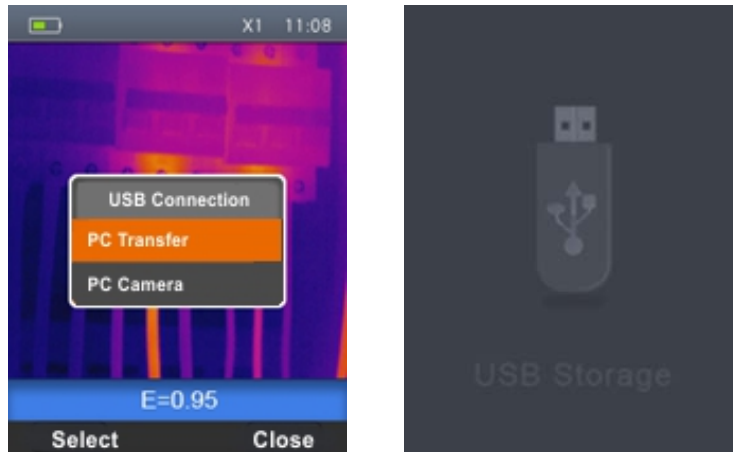

Fig. 32: Transferring images/videos onto the PC
2. Connect the USB cable to the instrument (see Fig. 2 – Part 19) and to the PC. The following screen (see Fig. 32 – Left side) is shown on the display:
4. Use the keys \oplus or \ominus to select the option “PC Transfer” and press the “Select” key. The screen Fig. 32 – Right side is shown on the display.